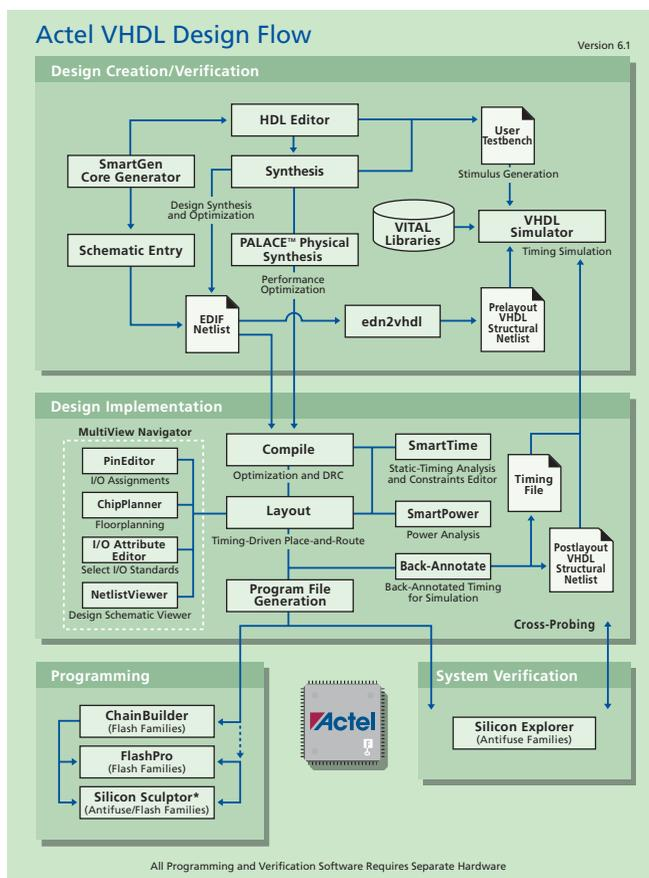

Figure 2-1. Actel-VHDL Design Flow
Figure 2-1 shows the design flow for an Actel FPGA using Designer software and a VITAL-compliant VHDL simulator1.
*1. The grey boxes in Figure 2-1 denote Actel-specific utilities/tools.*